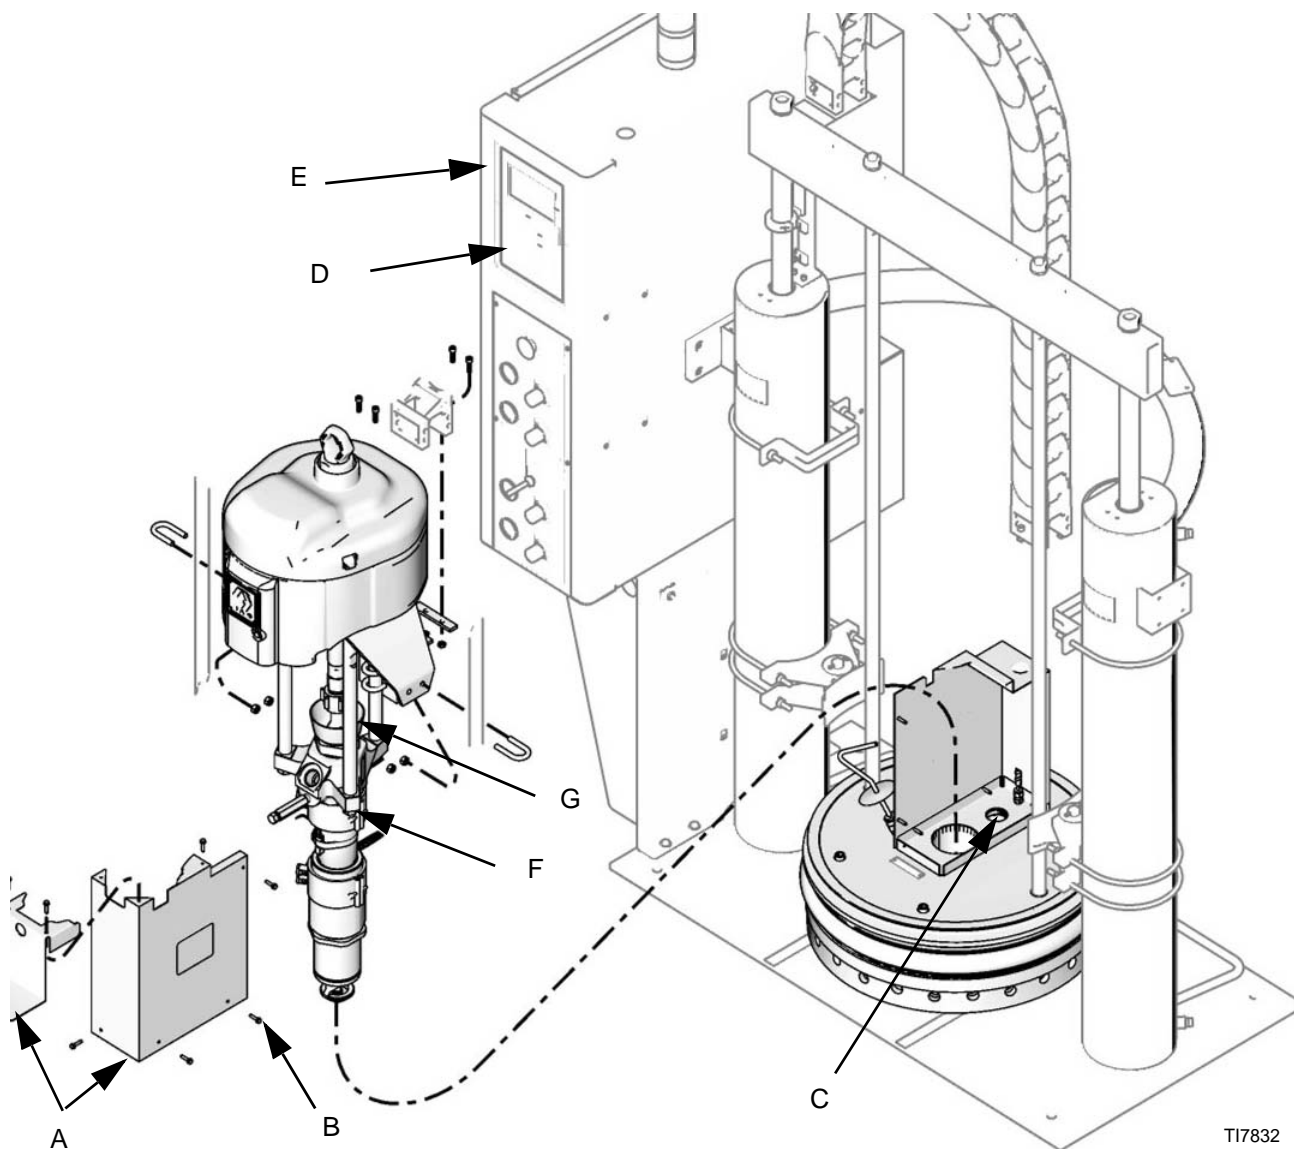

FIG. 24
4. On the electrical control panel, turn off the system heat (D). See FIG. 24.
6. Turn OFF the main electrical disconnect (E) located on the left side of the Them-O-Flow 200.
8. Remove the pump sheet metal enclosure (A). See FIG. 24.
- a. Remove the cover screws (B).
- c. Remove the follower sensor (C).
7. Remove nuts (F) from pump/air motor stand-off rods at the pump end. See FIG. 24.
10. Remove nuts (2) from follower lift rods.
11. Fully loosen pump rod coupler to the air motor rod (G).